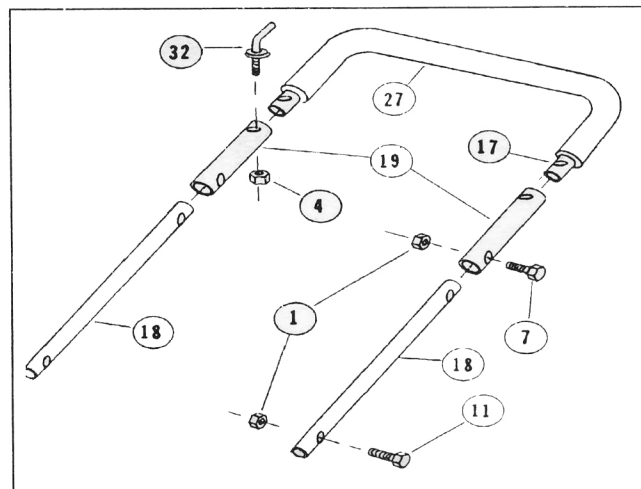

Figure 3
4. Install connector tubes (19) to side tubes (18) with 1/4 x 1 1/4 hex bolt (7) and 1/4 lock nut (1). See Fig. 3.
5. Slide foam hand grip (27) over steering handle (17). See Fig. 3.
6. Insert ends of steering handle (17) into connector tubes (19). Align holes in each and secure with hook bolt (32) and 1/4 thin nut (4). See Fig. 3.